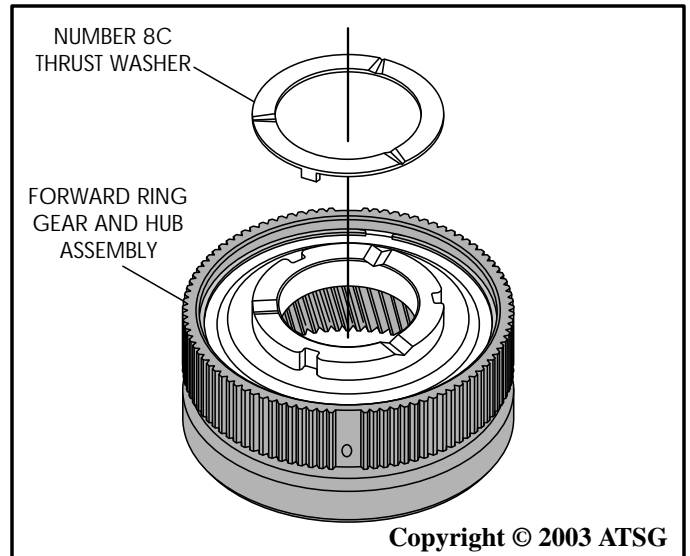

Figure 125
5. Install the number 8C thrust washer onto the forward ring gear and hub assembly, as shown in Figure 125, and retain with Trans-Jel®.